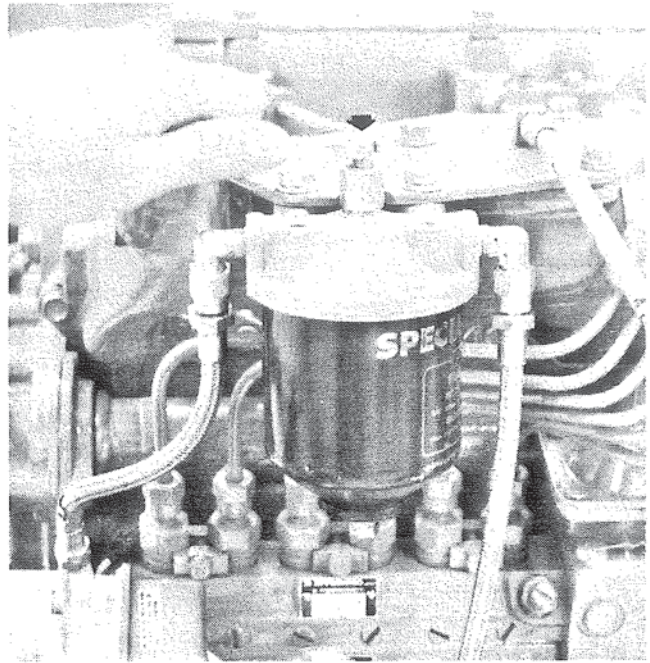

Figure 10. Bleeding Secondary Fuel Filter.
- A. Loosen bleed plug at top of center bolt using 6 point socket to avoid stripping head. Figure 10.